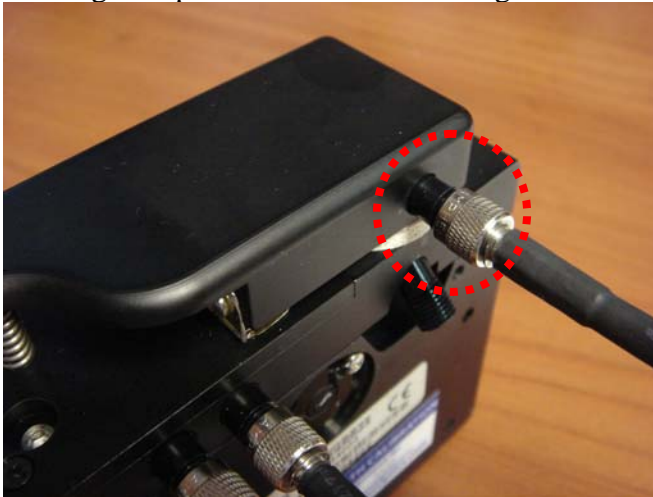

Figure 5. Connecting the fiber optic cable to the upper sampling port for transmission measurements
1. Insert the fiber optical cable to the upper sampling port on the side of the leaf probe (Fig. 5), and tighten the screw of the fiber optical cable connector. Block the light source port on the side of the leaf probe with the attached port block to prevent the stray light from entering the spectrometer. Leave the light source switch at the OFF position.